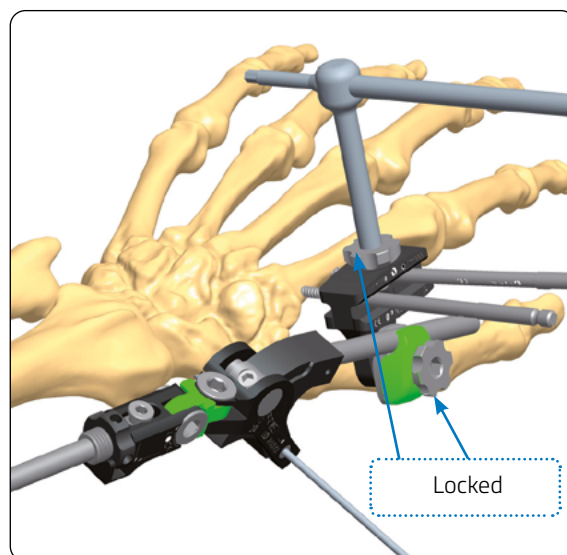

Fig. 16
- Once the center of rotation has been identified, both Locking Screws of the Small Multi-Screw Clamp-Short (93330) are locked into position using the Allen Wrench (**Fig. 16**)